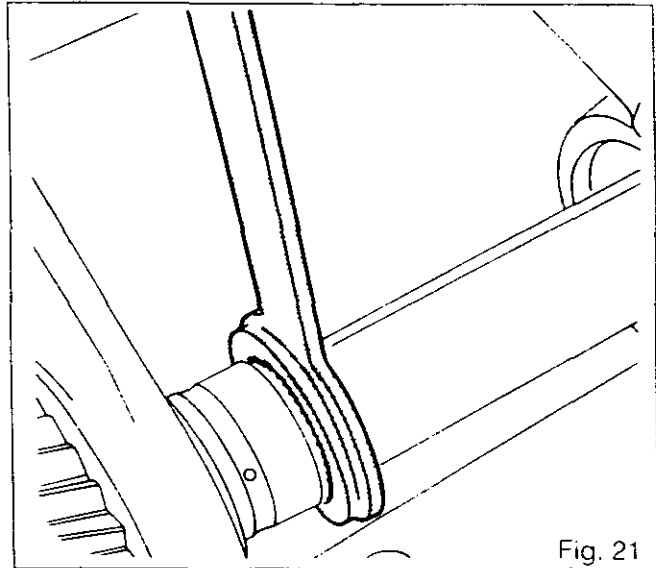
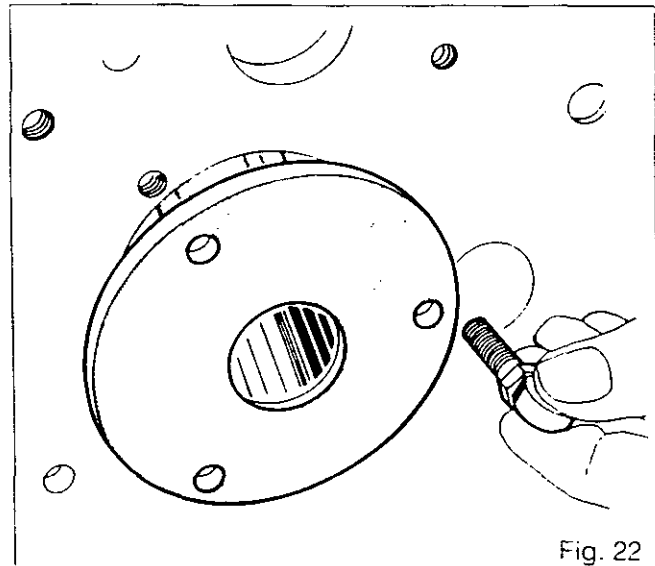
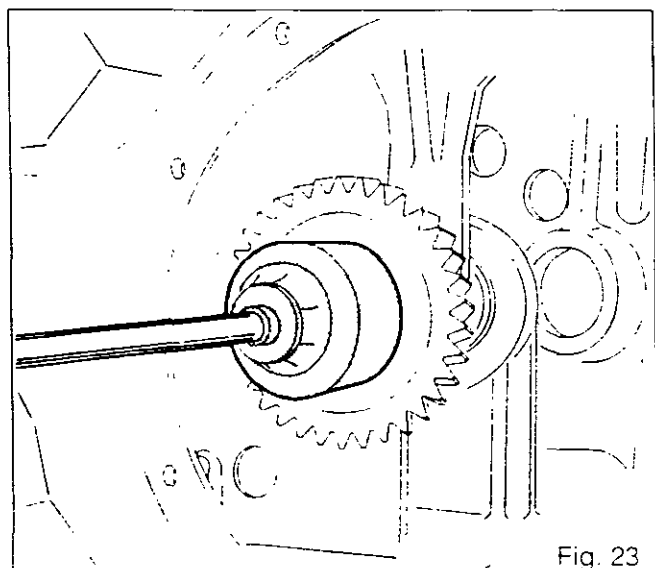

Fig. 21
Fig. 22
Fig. 23
- 49 Remove the circlip (26).
- 50 Remove 3rd and 4th gear synchromesh (23). Mark the direction of fitting.
- 51 Remove the synchromesh cup (21)
- 52 Remove the synchromesh cone (20) and the gear (18).
53. Position MF 458 locking tool (Fig.21) and the locally manufactured retainer sleeve for the mainshaft (69) (Fig.22) (See Section U).
- 54 Remove the oil feed pipe (71) and spring (72).
55. Unlock the nut (68) and slacken it using tool 3376805 M1 (Fig.23).
- 56 Remove the input shaft gear (67) and cone (1).
- 57 Remove the washer (6).
- 58 Remove tool MF 458 and the sleeve (Fig.21 and 22)
- 60 From inside the housing remove, in the following order, 2nd gear (14), cone (13), 2nd gear synchromesh cup (12), 1st and 2nd synchromesh (11), cone (9), synchromesh cup (10), 1st gear (7) and its bush (8).
- 61 Withdraw the bearing cups (16) and (2).
- 62 Remove the shims [3], the shim /4\ and circlips (15) and (5).
63. Remove the bearing cone (17) and circlip (70) from the shaft.